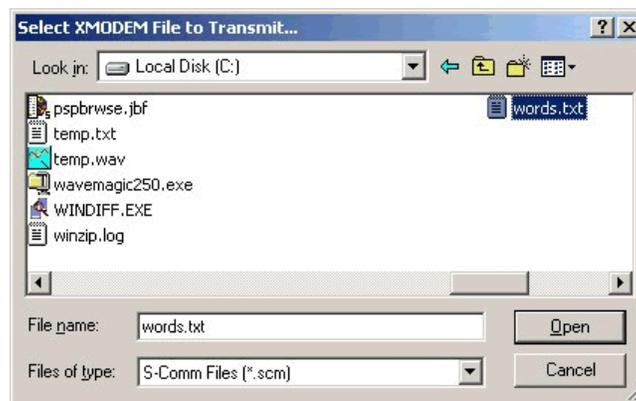

Figure 8: Choosing the Transmit File
5. Click the **Xmodem Transmit** button. Controller Manager will prompt you for the file to be sent as shown in Figure 8. Highlight the file you wish to send and click **Open**.
2. Click the **Xmodem Receive** button from within the Mini Terminal. A dialog for choosing the receive file will appear (similar to Figure 8).